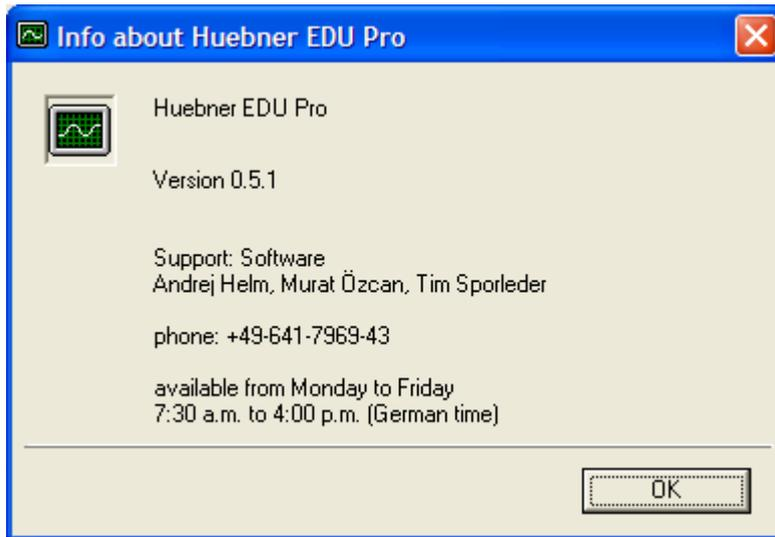

Fig. 19: About
2. – Opening menu “Info”. Continue Fig. 19.